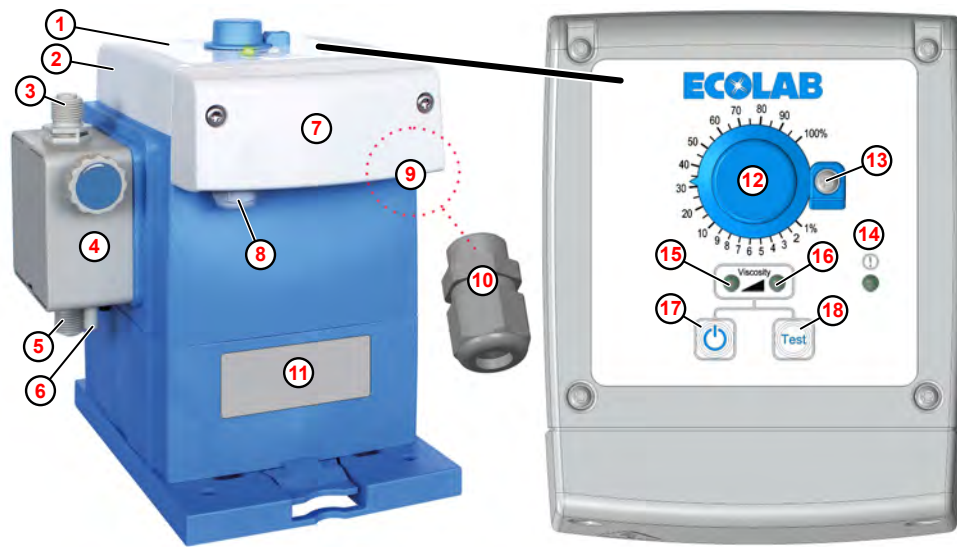

Fig. 1: Layout, operating elements and cable bushings EcoPro
For the cable connection of the enable signal, a screw coupling (M12 x 1.5) is supplied with the pump (Fig. 1 , ⑩).